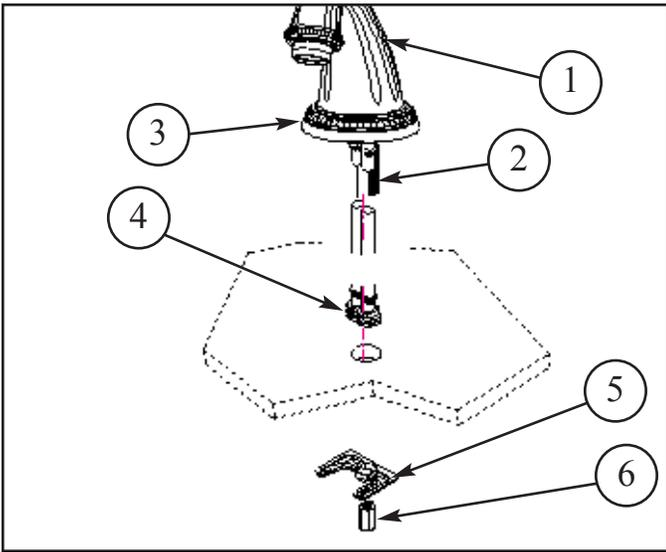

Figure 1
1. Insert SHANK (2) and HOSES (4), one at a time, through base ESCUTCHEON (3) and sink hole. From underside of sink place mounting BRACKET (5) and mounting NUT (6) onto spout SHANK (2). Align SPOUT (1) and secure into place by tightening mounting NUT (6). See Figure 1.